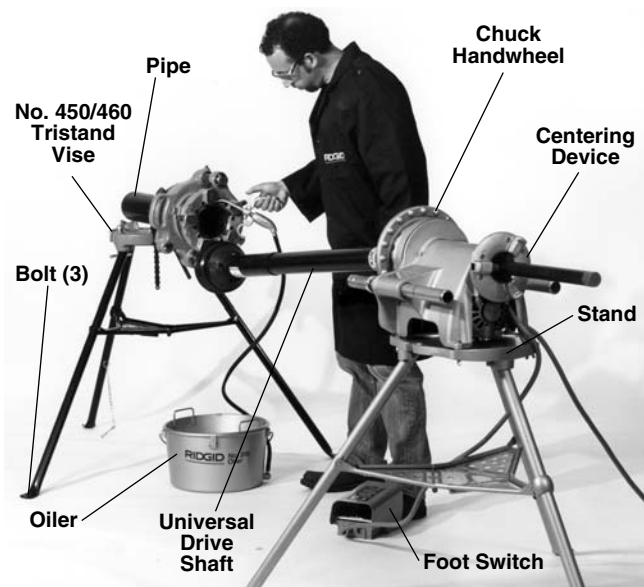

Figure 22 – Threading with Nos. 141 and 161 Geared Threaders using No. 840A Universal Drive Shaft
3. Locate chain vise in line, on same level, and approximately the length of universal drive shaft away from Power Drive front chuck (*Figure 22*).